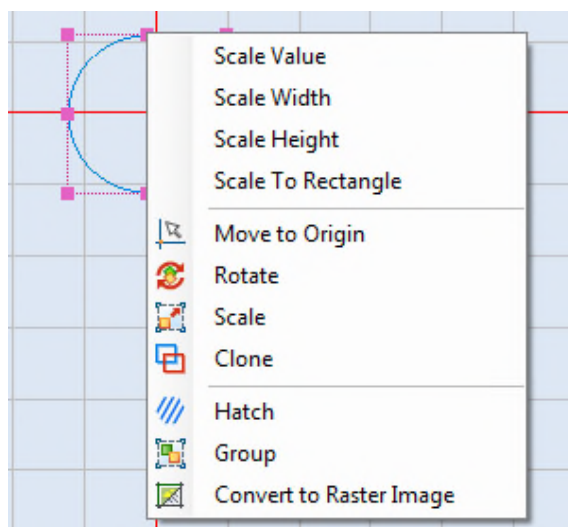

Figure 385: The boundary box popup menu
1. Display the boundary box popup menu by right-clicking on any Shape(s) with a boundary box. This displays the boundary box popup menu shown in Figure 385 on page 301.